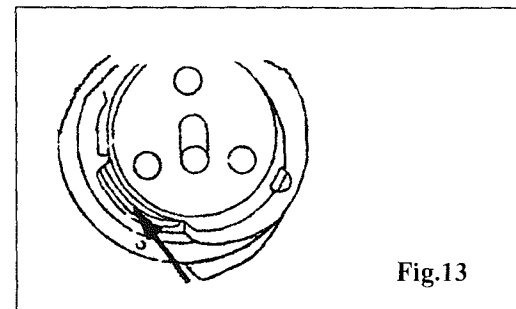

Fig.13
5) OILING THE ROTATING HOOK (Fig.13)
① Take the bobbin capsule out and drip one or two drops of oil into the rotating hook path (fig 13) once daily.
② Then put the bobbin capsule back in.